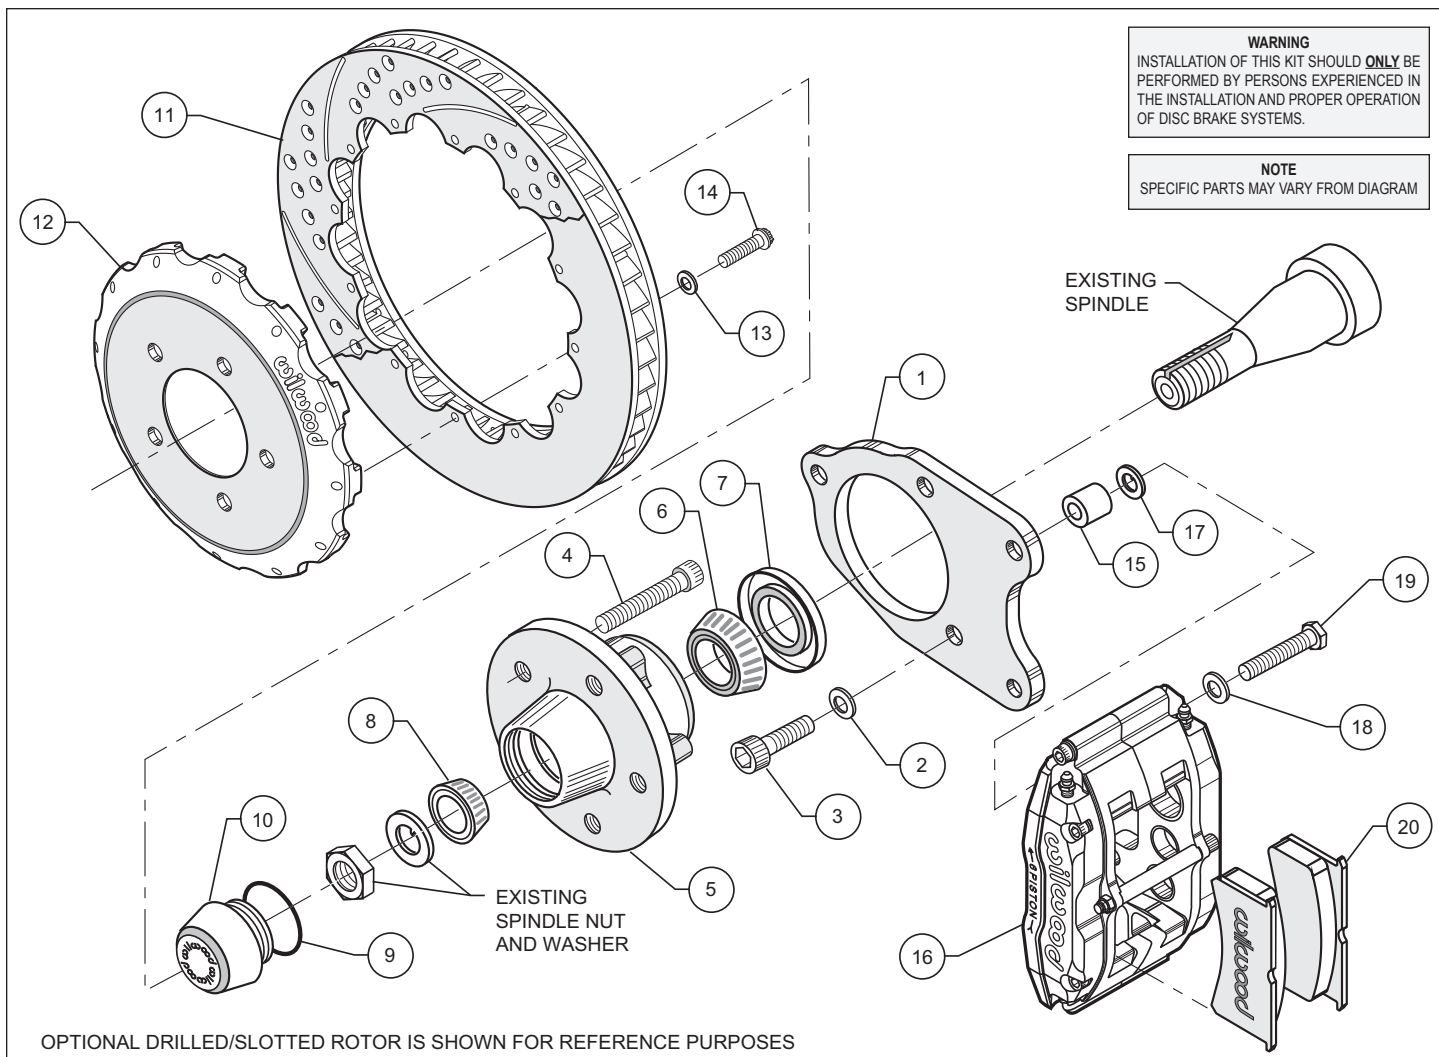

Figure 1. Typical Installation Configuration
- With the bleed screws pointing up, mount the caliper (16) onto the caliper bracket (1) using bolts (19), and caliper spacer (15) positioned between caliper and bracket, as shown in Figure 1. Finger tighten. View the rotor (11) through the top opening of the caliper. The rotor should be aligned in the center of the caliper. If not, adjust the caliper by using 0.030 inch thick shims (17) placed between the caliper spacer and the caliper, as shown in Figure 1. Finger tighten and recheck alignment. Apply red *Loctite*® 271 to bolt threads and torque to 75 ft-lb.
- Remove the bridge bolt from the caliper (16) and install the disc brake pads (20). Reinstall the caliper bridge bolt.